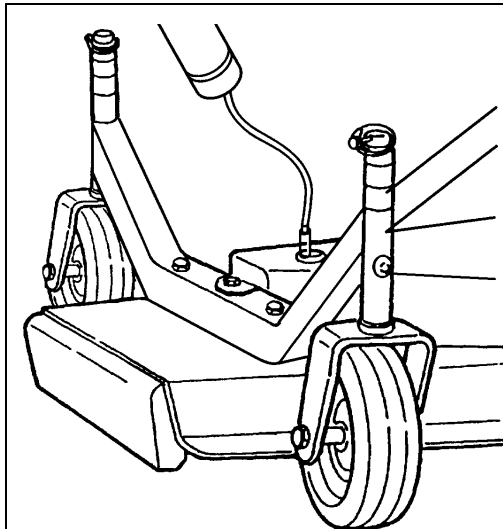

Fig. 9
1. lubricate the three spindles with two or three shots of multipurpose grease (**see fig. 9**).